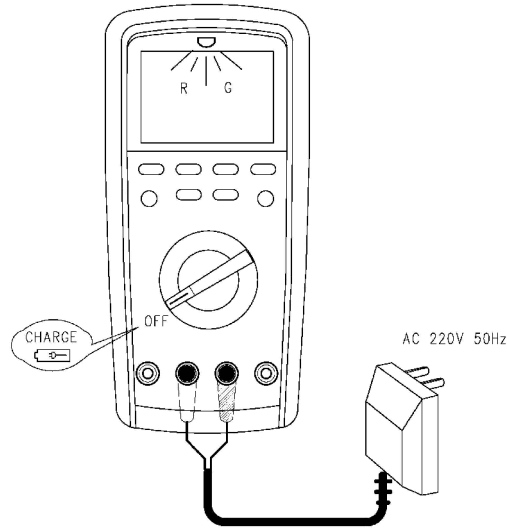

Figure 14
*** Charging internal lithium battery:** (see Figure 14) (applicable to UT171B/C only) connect the charging adapter provided for accessories in accordance with the figure, to charge the internal lithium battery. In the mode of charging, a red indicator alert will be emitted on top of the instrument, which turns green when the charging voltage reaches the full value, and then the instrument will automatically cut off the charging circuit as prompt for the completion of the charging.